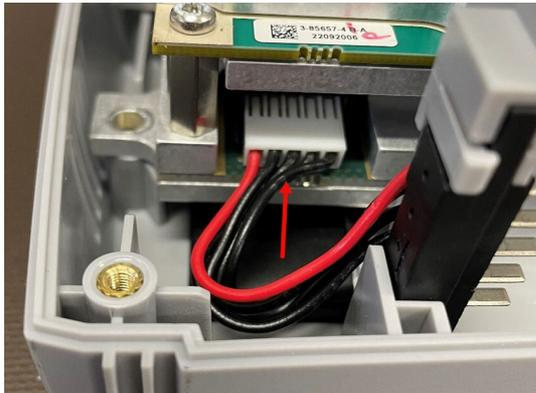

Figure 4-9. Battery Cable Removal
6. Disconnect the battery cable and remove the battery shroud. See Figure 4-9.